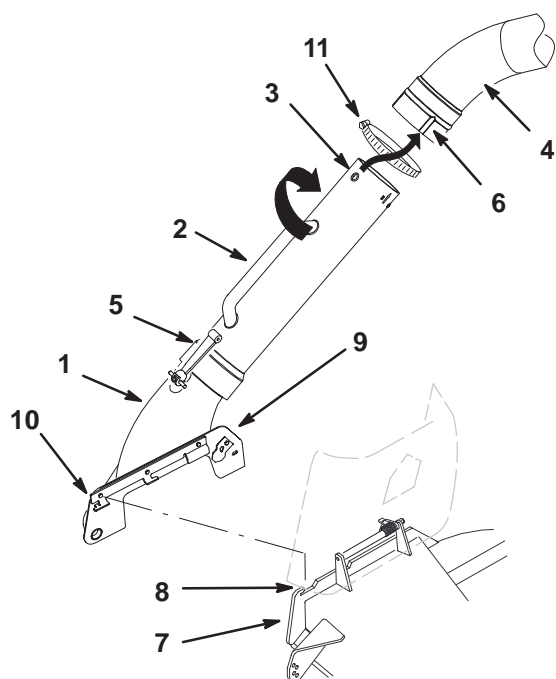

Figure 22
5. Position the boot's front hook into the front slot on the mounting bracket (Fig. 22).
6. Place the rear hook over the rear of the mounting bracket (Fig. 22).
7. Install the upper tube into the bagger (Fig. 22).
8. Slide the clamp onto the middle tube (Fig. 22).
9. Align the knob on the middle tube with the notch in the upper tube. Slide the middle tube into the upper tube and twist the middle tube 60 degrees (Fig. 22).
10. Tighten the clamp around the upper and middle tube connection (Fig. 22).
11. Slide the middle tube onto the boot and latch them together (Fig. 22).
3. Unlatch the middle tube from the boot and slide apart (Fig. 22).
4. Remove the tube assembly from the bagger (Fig. 22).
5. Remove the boot from the mounting bracket (Fig. 22).